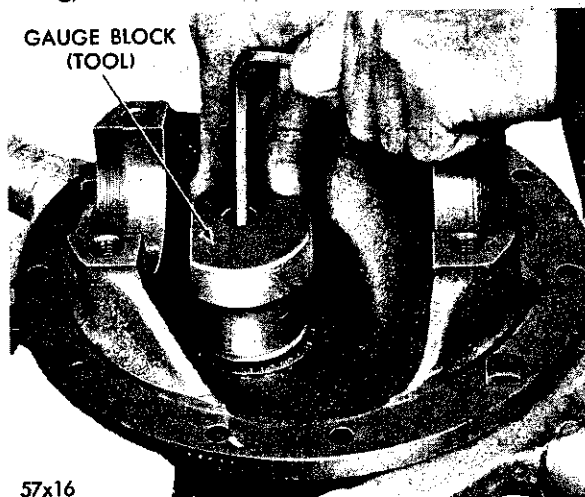

Fig. 20—Installing Gauge Block
(1) Invert the carrier in the stand and install gauge block SP-528 or SP-3250 on the end of the tool (Fig. 20), attaching it to the tool with the Allen screw. The flat portion of the spacer should be facing the differential bearing pedestals and the offset of the spacer (or the large portion) toward the center of the carrier. Tighten the screw with an Allen wrench.